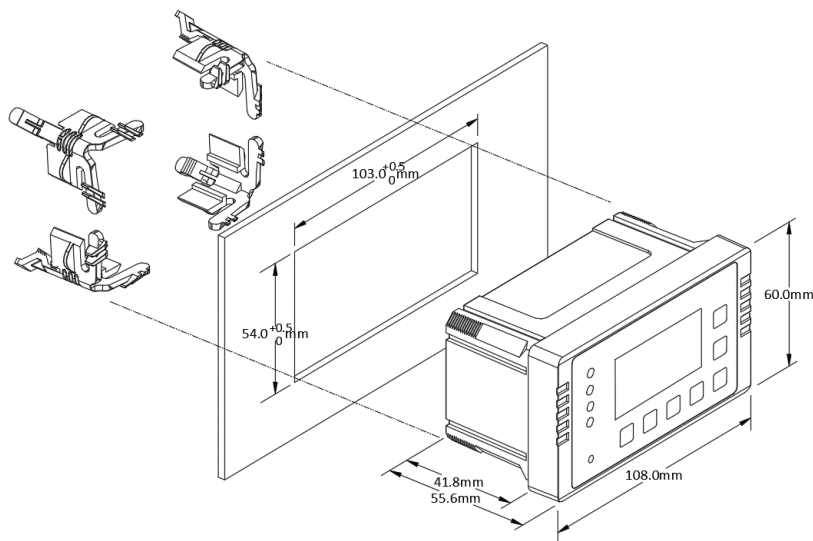

Figure 2-27 Panel Cutout Mounting for HMI Module
- Fit the meter through a 103mm x 54mm cutout, as shown in Figure 2-27.